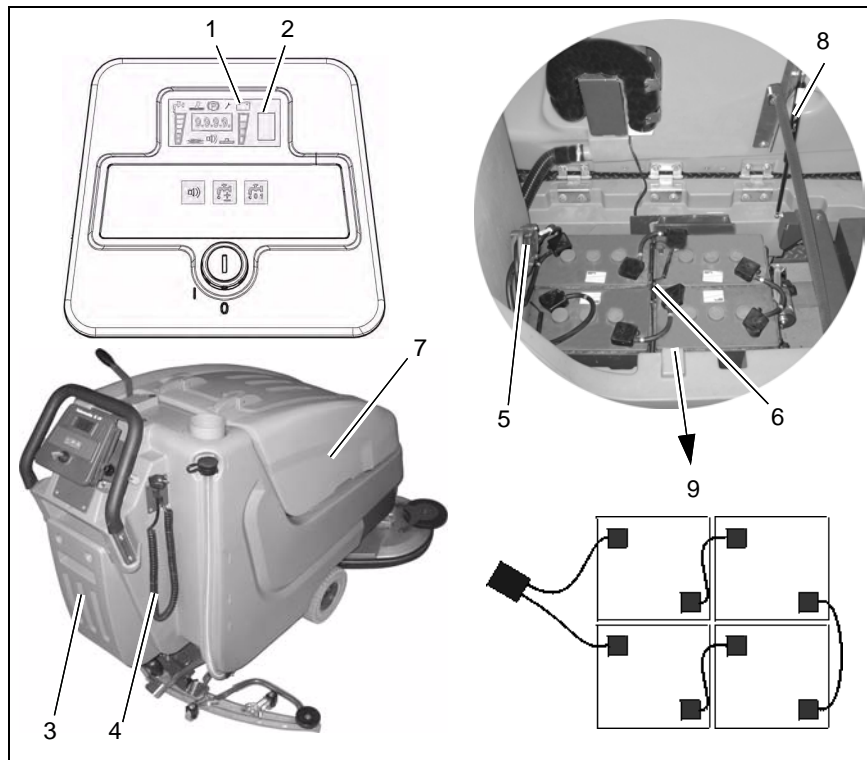

Fig.7
Use the integrated battery charger (Fig. 7/3) to charge batteries. Proceed to connection of the charger by means of the ac power cable (Fig. 7/4) with safety plug. Charging batteries is recommended if at least one bar of the LDS display has extinguished after operation of the machine. You should observe the operating instructions of the charger as well as the operating instructions of the battery manufacturer.
3. Open empty recovery tank (Fig. 7/7) and secure by support (Fig. 7/8).
4. Disconnect battery plug (Fig. 7/5).
2. Open empty recovery tank (Fig. 7/7) and secure by gas pressure spring (Fig. 7/8).
4. Connect battery poles and enclosed connecting cables according to wiring diagram (Fig. 7/9). Provide for tight fitting and grease poles.